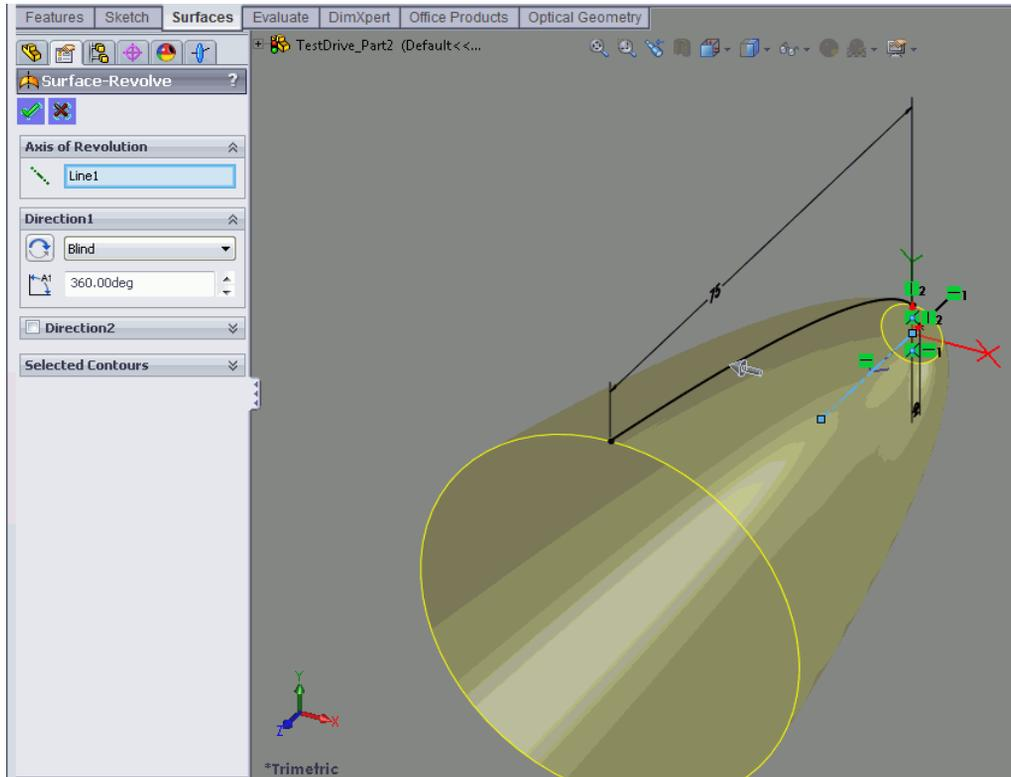

Figure 32 Surface-Revolve PropertyManager (left) and surface as displayed in the graphics area (right)
- 4 On the Surface-Revolve PropertyManager, set the degree of the angle to 360 under **Direction[*]**. The surface is displayed in the graphics area. See Figure 32.